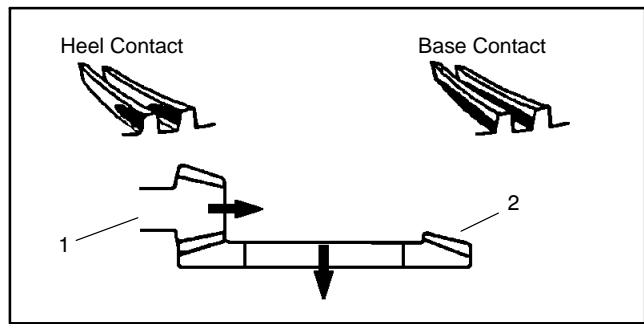

Figure 41
Study the different contact patterns (Fig. 41 and 42) and correct engagement as necessary.
1. If contact is toward the heel or base of the gear (Fig. 41):